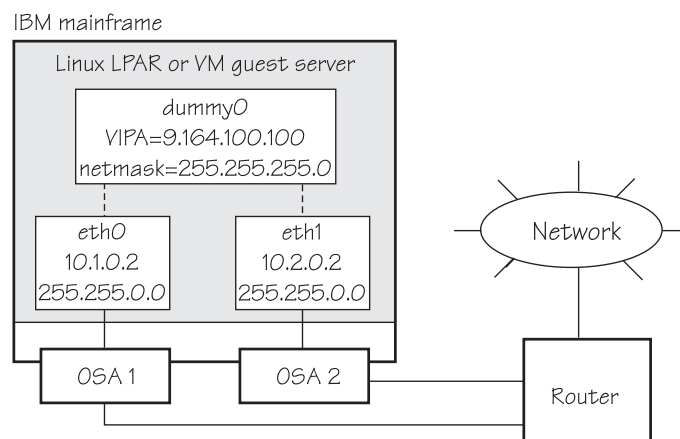

Figure 67. Example of using Virtual IP Address (VIPA)
- Static routing (shown in the example of Figure 67).
Figure 67 shows the network adapter configuration that is used in the example.